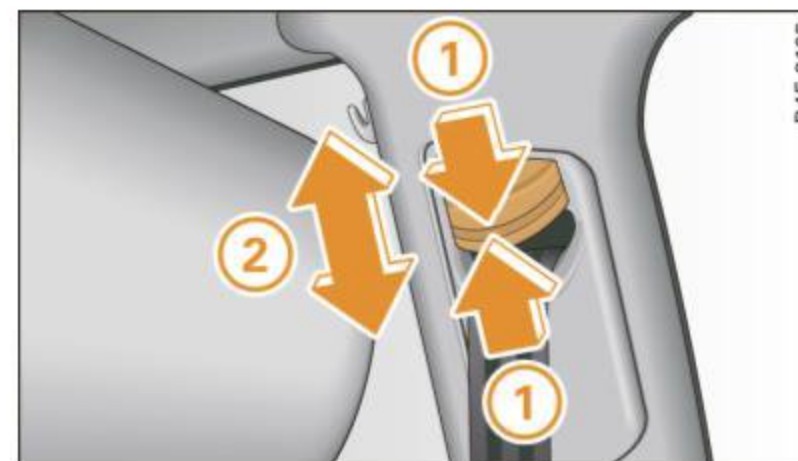

Fig. 185 Safety belt height adjustment for the front seats – loop-around fittings
- Push the loop-around fittings **up** ⇒ fig. 185 ②, or
- squeeze together the ① button, and push the loop-around fittings **down** ②.